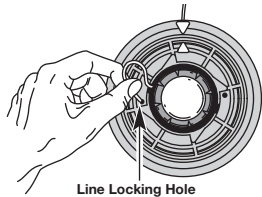

Fig. 16
5. Insert the line into the locking hole (Fig. 16). Do not push the line more than a 1/2 inch (12.7 mm) into the line locking hole. The line will form a small loop (Fig. 16) when it is inserted correctly.